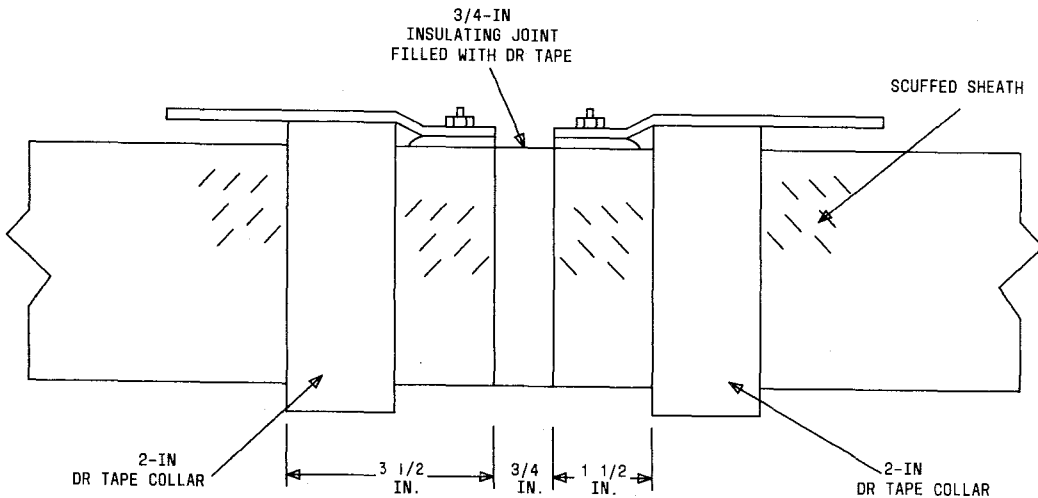

Fig. 10—Placing DR Tape Collars
- (f) Build a collar, using three layers of unstretched 2-inch wide DR tape, on each side of the opening as shown in Fig. 10.